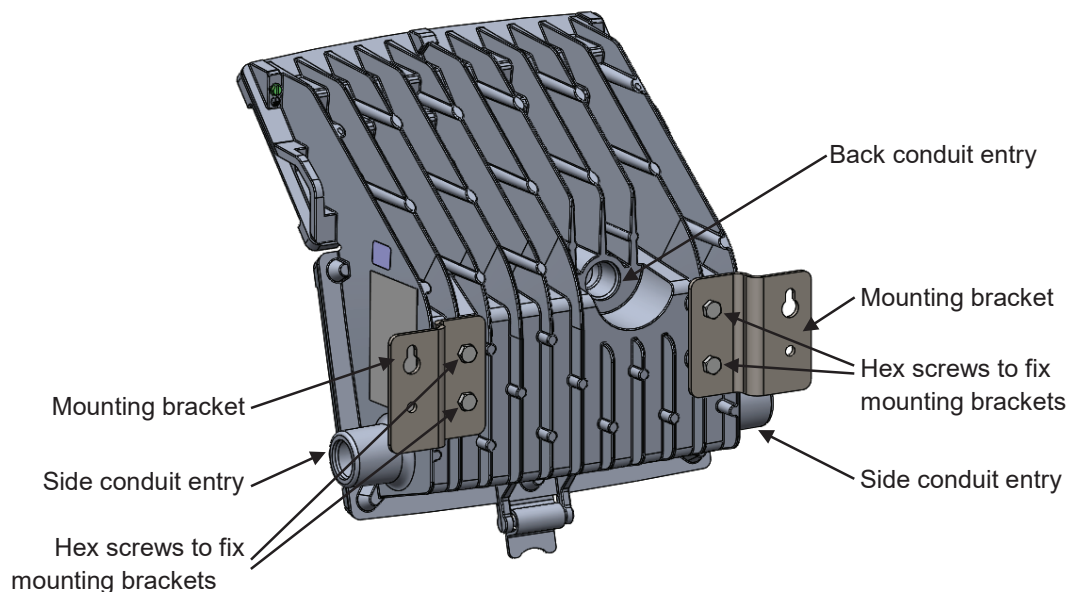

Figure 1
2. Luminaire is provided with three 3/4" NPT conduit entries and two NPT plugs will be shipped with the luminaire, but not installed (Figure 1). Plug the conduit entries not being used. To prevent galling and to ensure water tightness, lubricate conduit plugs with Eaton's Crouse-Hinds series HTL lubricant before installing, and secure wrench-tight with at least five (5) full threads engaged (42-52 ft.-lb. for 3/4" plugs)